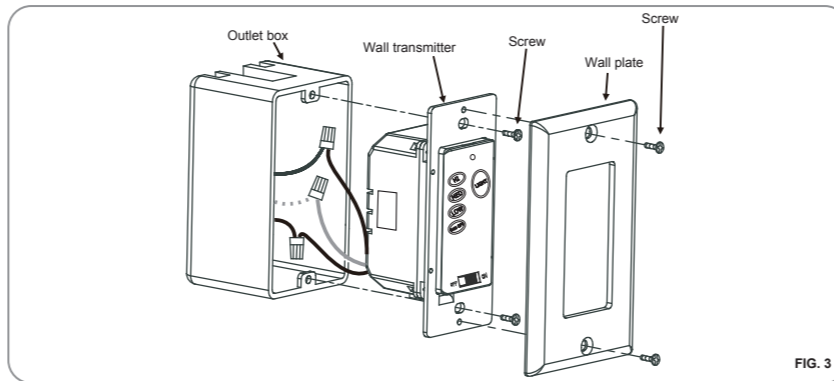

FIG. 3
- Step.2 Carefully tuck the wire connections inside the outlet box. Secure the wall transmitter with the two screws provided. Attach the wall plate over the wall transmitter and secure with the two screws provided. (Fig. 3)